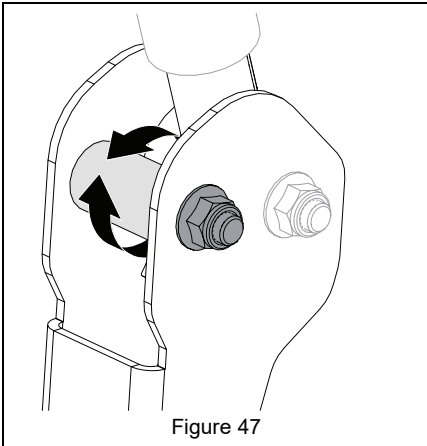

Figure 47
- Adjust eccentric spacer so levers are at the same height and have a 1.3 cm – 2.5 cm (1/2" – 1") gap between lever ends. See Figure 47.